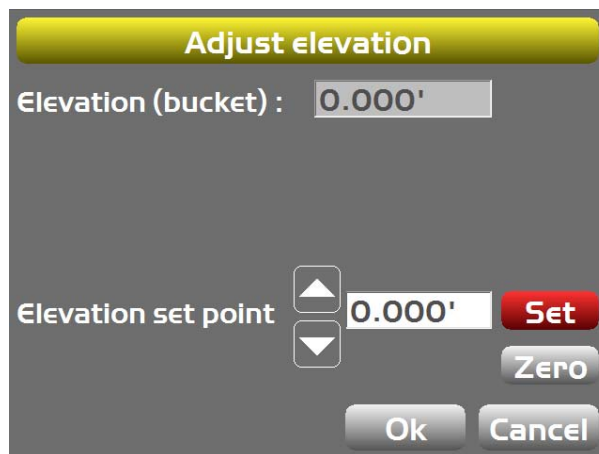

Figure 79: Enter Offset
6. Enter the offset measurement as the **Elevation set point** in the **Adjust Elevation** control screen (Figure 79).